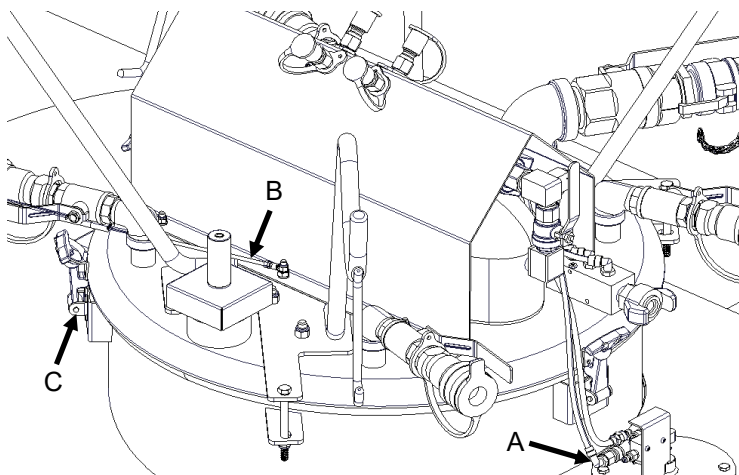

Figure 4-1 Vacuum System Removal
- b. Disconnect Auto Shut-off Assembly control lines. (See Figure 4-1, (A).)
- c. Disconnect static bond wire (See Figure 4-1, (B)).
- d. Unlatch rubber hold downs (See Figure 4-1, (C)).
- a. Remove pneumatic tubes from the Vacuum System Assembly by releasing the quick disconnect fittings. (See Figure 4-1, A).
- b. Remove bolts (11) and nuts (9); four places. Lift Auto Shut-off Assembly vertically to remove from tank, note presence of gasket (10).
- c. Remove bolts (7) and nuts (8) to detach control valve (2) from body (1).
- d. Remove fittings (5), (6), and (4) and pneumatic muffler (3) as needed.
- e. Remove retainer clip (14) to remove float rod (12) from body (1).
- f. Un-thread float rod (12) from float (13). Use caution not to damage float by puncturing it during maintenance activities.